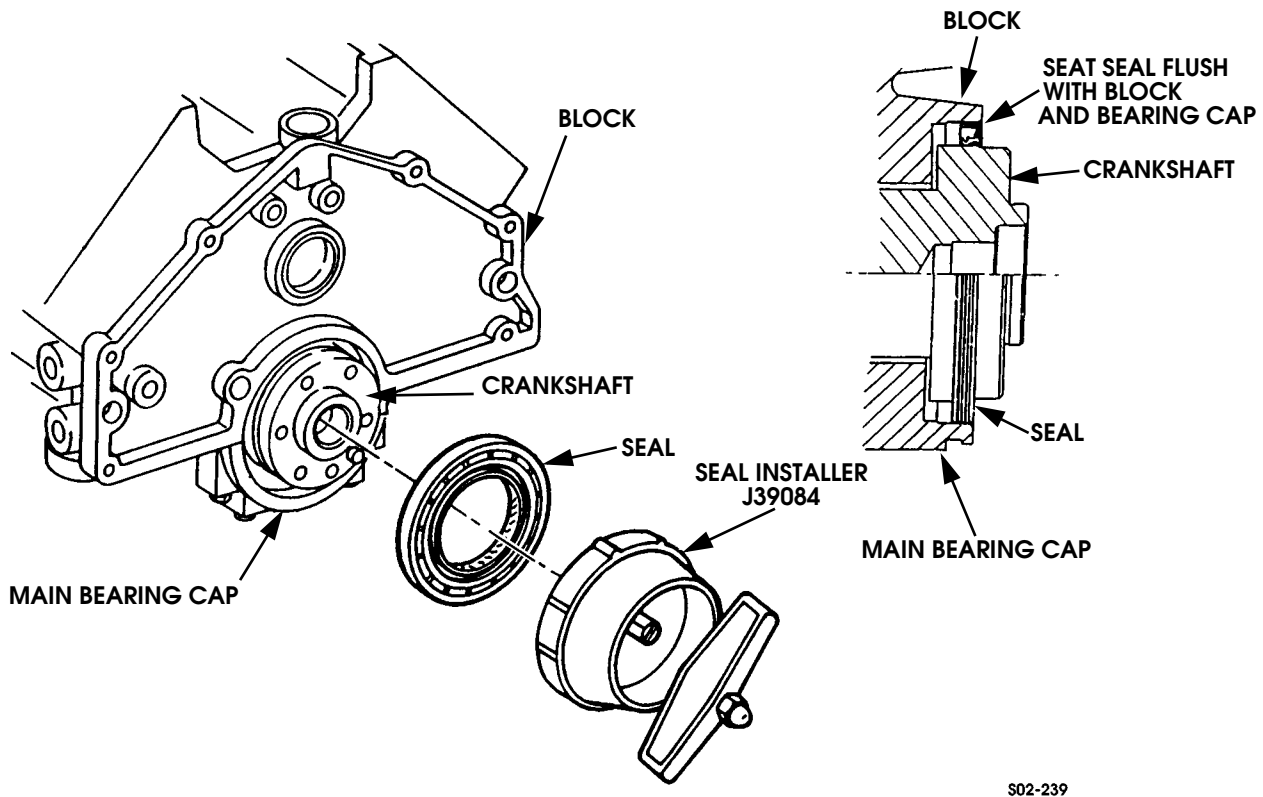

Figure 2-35: Rear Main Oil Seal Installation
7. Position seal installer J39084 on crankshaft, press seal into cavity in block, then remove installer tool (Figure 2-35).